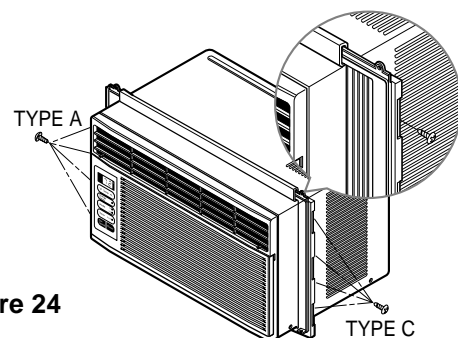

Figure 24
1. Insert the guide panels into the guides of the air conditioner. Fasten the curtains to the unit with screws (TYPE A) as shown Figure. 24.